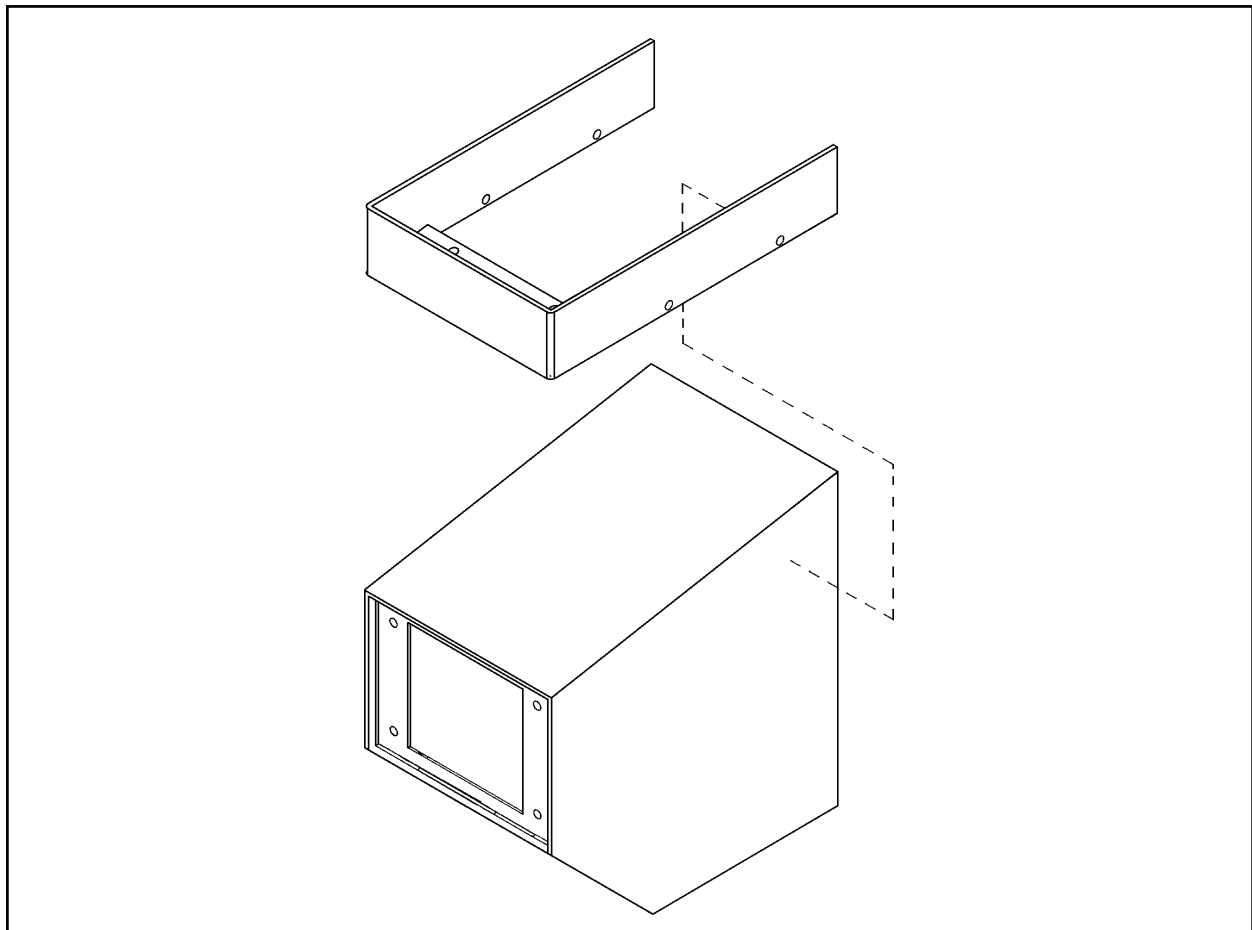

Figure 3. HS8000CA Ceiling Adapter Plate Installation
1. Remove the two (2) tamper-resistant screws and open the cover. A special socket is provided (fits 1/4" square drive).
2. Using the enclosure or the template provided (see Figure 3), mark and drill holes in the mounting surface.
3. Knock out any of the two (2) cable entry holes desired on the enclosure body.
1. Place the HS8000CA ceiling adapter plate on the HS8000 enclosure as shown in Figure 3.
2. Next, drill six (6) 0.187" (3/16") holes in the enclosure at the location of each of the mounting holes on the HS8000CA ceiling adapter plate.
3. Place a nylon washer on the 10-32 screw and insert it through the HS8000CA ceiling adapter plate mounting hole and the hole in the enclosure drilled in step 2. Then install a nut on the 10-32 screw and tighten. Repeat this step for each of the six (6) mounting holes.